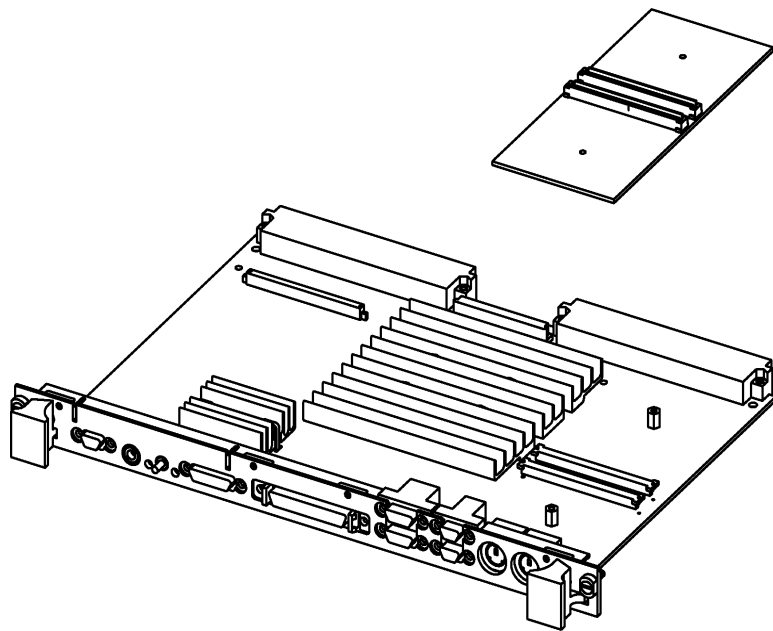

Figure 2-1 **Installing RAM Cards**
For a Model 744 in a single slot configuration (no expansion adapter installed), only one RAM can be installed. In a two-slot configuration, up to four RAM cards may be stacked. Use these steps and Figure 2-1 to install the RAM cards:
- 2 If the Model 744 has RAM card(s) already installed, remove the screws that secure the topmost RAM card, and then install the new standoffs that came with your RAM card onto the topmost card (see Figure 2-1).
- 3 Hold the RAM card you are installing so that the conferred corner is the upper-left corner (see Figure 2-1).